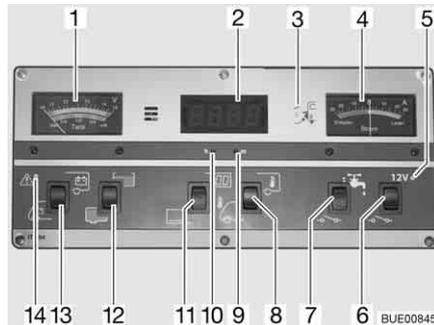

Fig. 172 Panel IT 994
With the V/tank gauge (Fig. 172,1), note the top scale. The gauge automatically lights up as soon as a switch is pressed.
- Press the lower part of the rocker switch (Fig. 172,13): The battery voltage of the starter battery is displayed.
- Press the upper part of the rocker switch (Fig. 172,13): The battery voltage of the living area battery is displayed.
The V/tank gauge is for the indication of the quantity of water or waste water. With the V/tank gauge (Fig. 172,1), use the bottom scale. The gauge automatically lights up as soon as a switch is pressed.
- Press the upper part of the rocker switch (Fig. 172,12): The volume of water is displayed.
- Press the lower part of the rocker switch (Fig. 172,12): The volume of waste water is displayed.
The red ALARM warning light (Fig. 172,14) flashes as soon as the voltage of the living area battery falls below 11 V (measured under operation) and there is a risk of a total discharge.
- Press the upper part of the rocker switch (Fig. 172,11): Digital clock display is switched on. Temperature display is ready to operate.
- Press the lower part of the rocker switch (Fig. 172,11): Digital clock display and temperature display are switched off.
- Press a thin device, such as a biro, into the opening for the hour display (Fig. 172,10) until the correct hours are displayed.
- Press a thin device, such as a biro, into the opening for the minute display (Fig. 172,9) until the correct minutes are displayed.
- Press the upper part of the rocker switch (Fig. 172,8): The internal temperature is displayed.
- Press the lower part of the rocker switch (Fig. 172,8): The external temperature is displayed.
The battery current actually flowing is permanently displayed on the current gauge (Fig. 172,4). The gauge automatically lights up as soon as a switch is pressed.
The 12 V main switch (Fig. 172,6) switches the panel and the 12 V power supply of the living area on and off.
*Switching on:* ■ Press the upper part of the rocker switch (Fig. 172,6): The 12 V living area power supply is switched on. The indicator lamp (Fig. 172,5) lights up green.
*Switching off:* ■ Press the lower part of the rocker switch (Fig. 172,6): The 12 V living area power supply is switched off. The indicator lamp (Fig. 172,5) goes out.
The 12 V indicator lamp (Fig. 172,5) illuminates whenever the 12 V main switch (Fig. 172,6) is switched on.
The yellow 230 V indicator lamp (Fig. 172,3) illuminates whenever line voltage is available at the transformer/rectifier input.
*Switching on:* ■ Press the upper part of the rocker switch (Fig. 172,7): The water supply is ON.